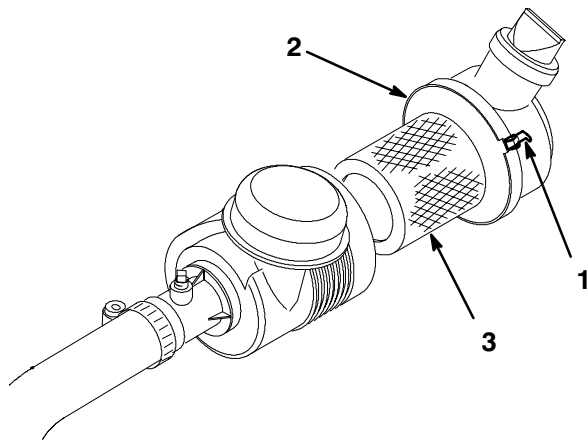

Figure 34
1. Release the latches securing the air cleaner cover to the air cleaner body (Fig. 34). Separate the cover from the body. Clean the inside of the air cleaner cover.
3. Reinstall the cover and secure the latches (Fig. 34).